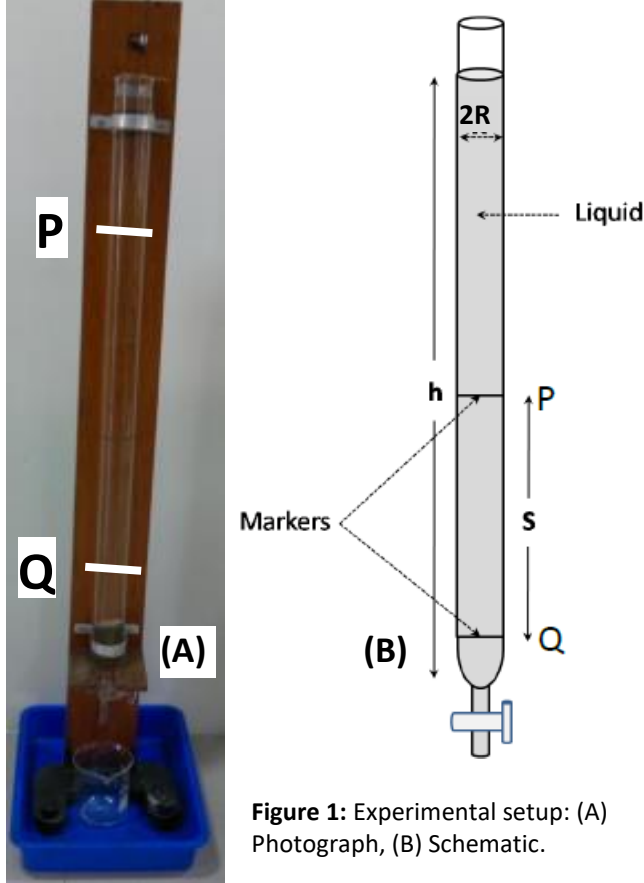
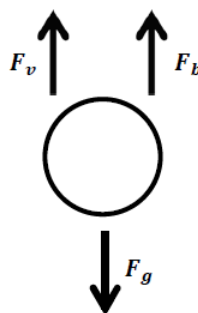

Figure 1: Experimental setup: (A) Photograph, (B) Schematic.
Figure 2: Force directions.
Experimental apparatus: The main experimental apparatus (Fig. 1) consists of a glass tube containing the experimental liquid. P and Q are two adjustable reference marks along the tube length. The entire glass system is supported by a wooden stand. Besides this you will need a few steel balls of different diameter, screw gauge, digital balance, vernier calliper, stopwatch, and meter scale for this experiment.
Principle of the experiment: A body moving in a fluid is acted on by a frictional force in the opposite direction of its velocity. The magnitude of this force depends on the geometry of the body, its velocity, and the internal friction of the fluid. A measure for the internal friction is given by the dynamic viscosity η . For a spherical ball of radius r moving at velocity v in an infinitely extended fluid of dynamic viscosity η , G. G. Stokes derived the viscous force to be: $F_v = 6\pi\eta r v$ (1). If the spherical ball (density ρ) is dropped from rest at the upper surface of a vertical liquid (density σ) column (as in Fig. 1), gravitational force $F_g = \frac{4}{3}\pi r^3 \rho g$ (g = acceleration due to gravity) and buoyancy force $F_b = \frac{4}{3}\pi r^3 \sigma g$ act on it besides viscous force $F_v = 6\pi\eta r v$. Directions of forces are schematically shown in Fig. 2.
1. Set the pointer **P** at about **10** cm below the top surface of the liquid column. (The distance of the pointer **P** should be chosen such that by the time a ball reach at **P**, it should attain terminal velocity. So, you should check if the balls are attaining terminal velocity before reaching at **P**.) Set the pointer **Q** about **80** cm below the pointer **P** (Fig. 1). Measure the actual distance S between **P** and **Q** using a meter scale and record data in tabular form.
8. Use Eq. (3) to calculate coefficient of dynamic viscosity η for different size of balls. Calculate average η .